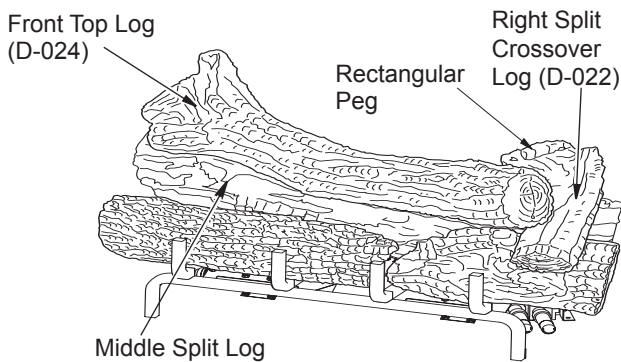

Figure 24 - Installing Front Top Log
- For GTA/GTB logs, find the front top log (D-024). See **Figure 24**. The left end of this log has a square hole that fits over a square peg that is on the top of the middle split log. The right end of this log rests behind the knot on the top of the front right log.